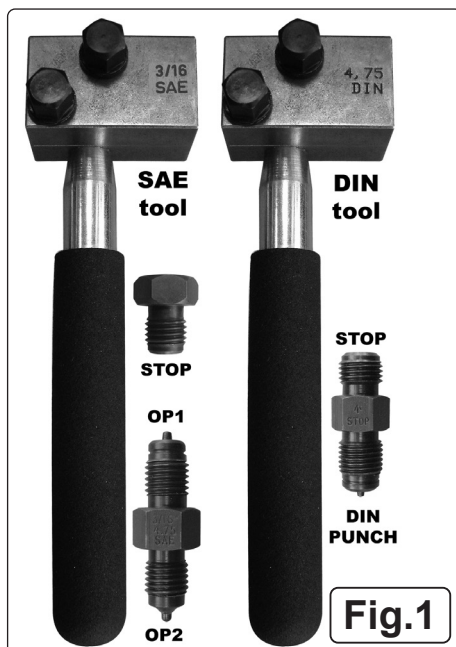

Fig.1
- 3.2.1. Use the SAE tool, stop and double ended punch as shown in fig.1.
- 3.4.1. Use the DIN tool and DIN punch as shown in fig.1.